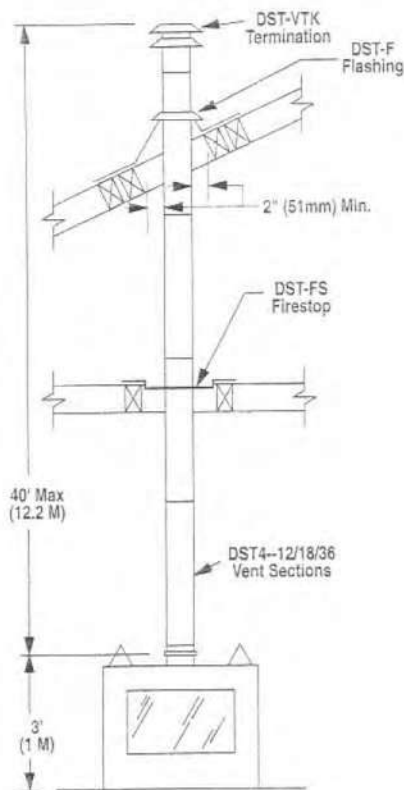
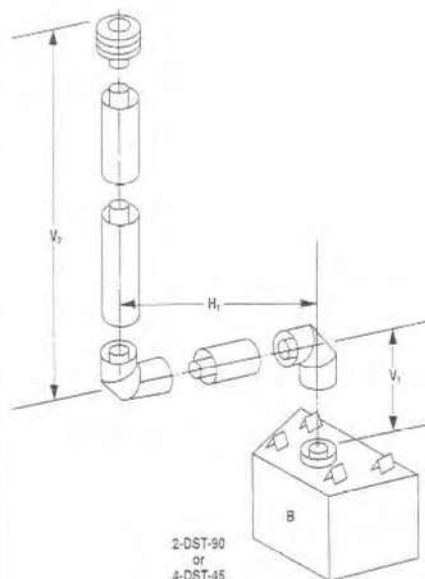

Figure 10
Figure 11 (90° Offsets Shown)
The Figures 10 through 13 and the Vertical Vent Table illustrate the various vertical venting configurations that are possible for use with Superior's Discovery Series Top Vent Appliances. The maximum vertical height for the DS-36T system is 40' (12.2 m) above the top of the appliance. Figures 11, 12 and 13 along with the Vertical Vent Table identify; (A) straight vertical system; (B) vertical system that employs two (2) 90° elbows and (C) vertical system that employs three (3) 90° elbows. The Vertical Vent Table summarizes each system's minimum and maximum vertical and horizontal values that can be used to design and install the vent components in a variety of applications. All three of these vertical vent systems terminate through the roof. The minimum vent height above the roof and/or adjacent walls is specified by major building codes. Always consult your local codes for specific requirements. A general guide to follow is the Gas Vent Rule (Refer to Figure 14).